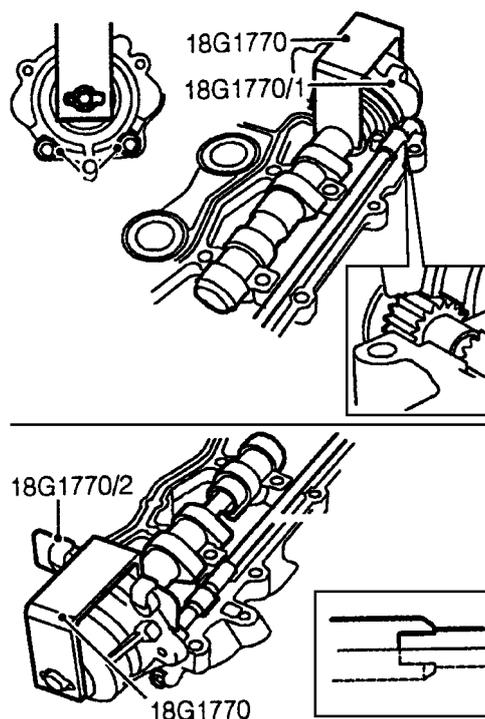

Figure 26
- Position both solenoids as shown in figure 26, then fit and tighten sleeve bolt to 6Nm